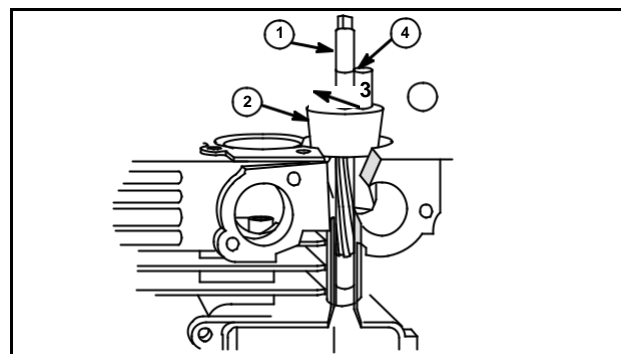

Fig. 13
1. Place pilot of Counterbore Reamer #19231 (1) in valve guide.
2. Slide Tool #19234, Reamer Guide (2), down over counterbore reamer until Guide rests on valve seat.
3. Hold replacement guide bushing, Part #231218, on top of reamer guide and mark reamer (4) 1/16" (1.57 mm) above replacement guide bushing, Fig. 13.
11. Finish ream bushings, Part #261961 and #231218 with Finish Reamer, Tool #19233, and Reamer guide Bushing, Tool #19234 until reamer goes through entire guide, Fig. 13.